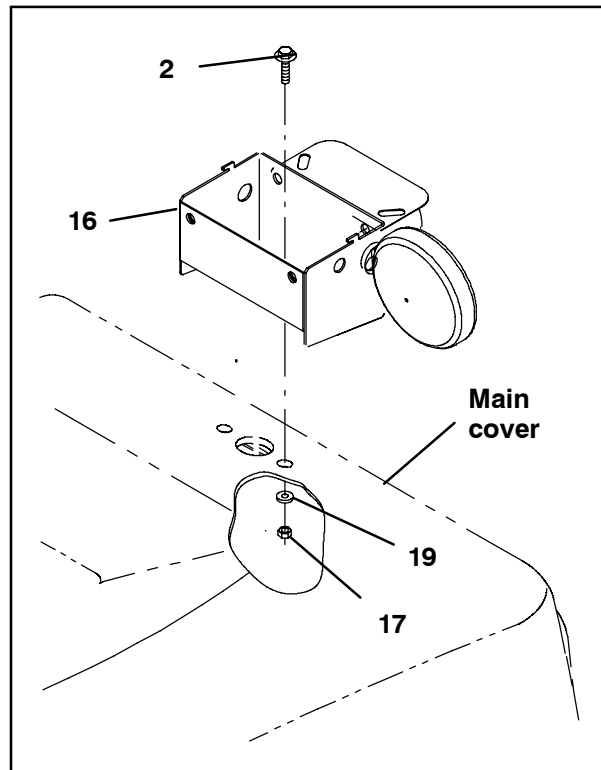

FIG. 4
12. Use two hex screws (2), two flat washers (19), and two hex nuts (17) to install the alarm bracket (16) onto the main cover. Refer to Fig. 4.